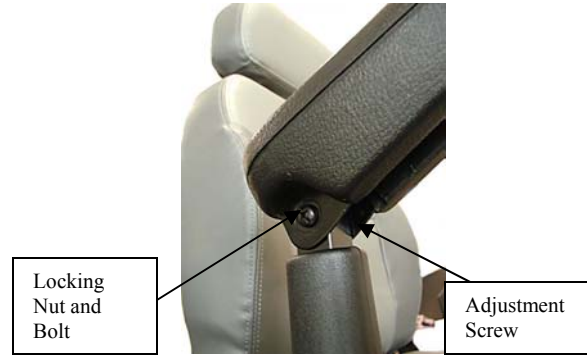

Figure 9
**Armrest Angle Adjustment (Fig. 9)**